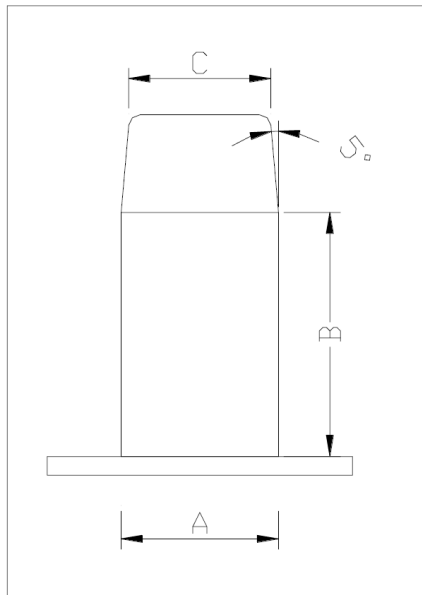

Figure 9
- To expand, use the expanding mold, as shown in Figure 9, which can be made of metal or good quality wood;
- If there is a delay between the expansion and coupling operation, the hose must be completely cooled still mounted in the expansion mold. The coupling must be done according to the instructions of the method described in item 6.2.3, reheating the hose with hot water for a short period of time.